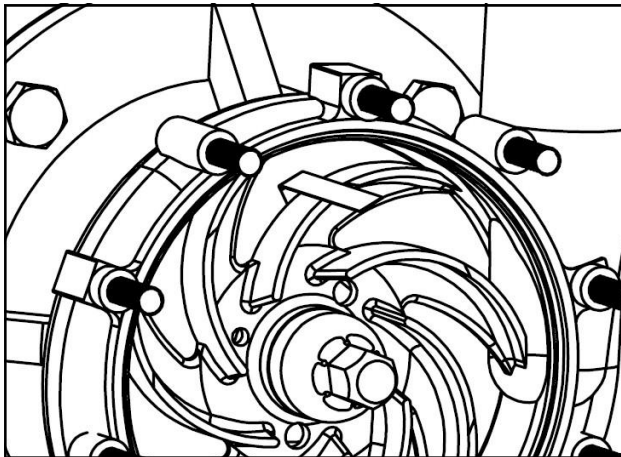

Figure 22
15. Check the impeller to casing clearance by sliding a feeler gauge between the impeller and the casing to ensure that the seal is properly set from the factory (feeler gauge thickness should be 0.04"), as seen in Figure 22.